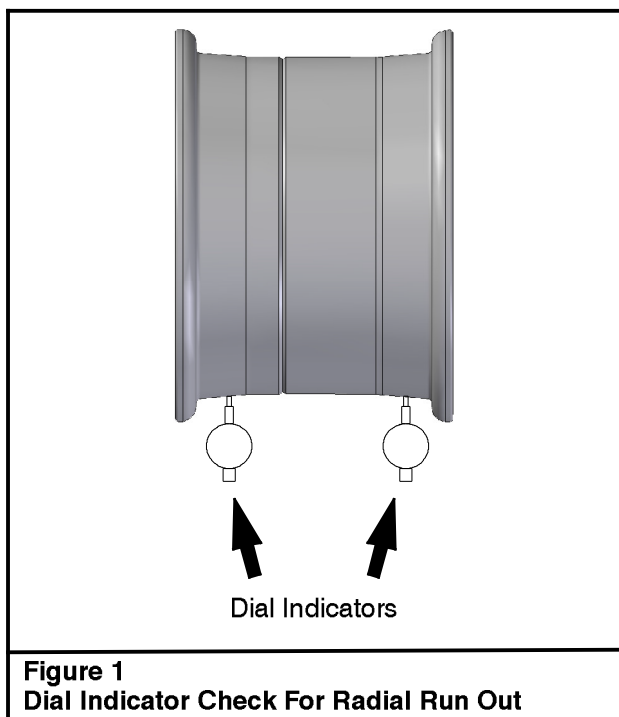

Figure 1
- Place dial indicators to trace the bead seats of the rim. Refer to Figure 1.